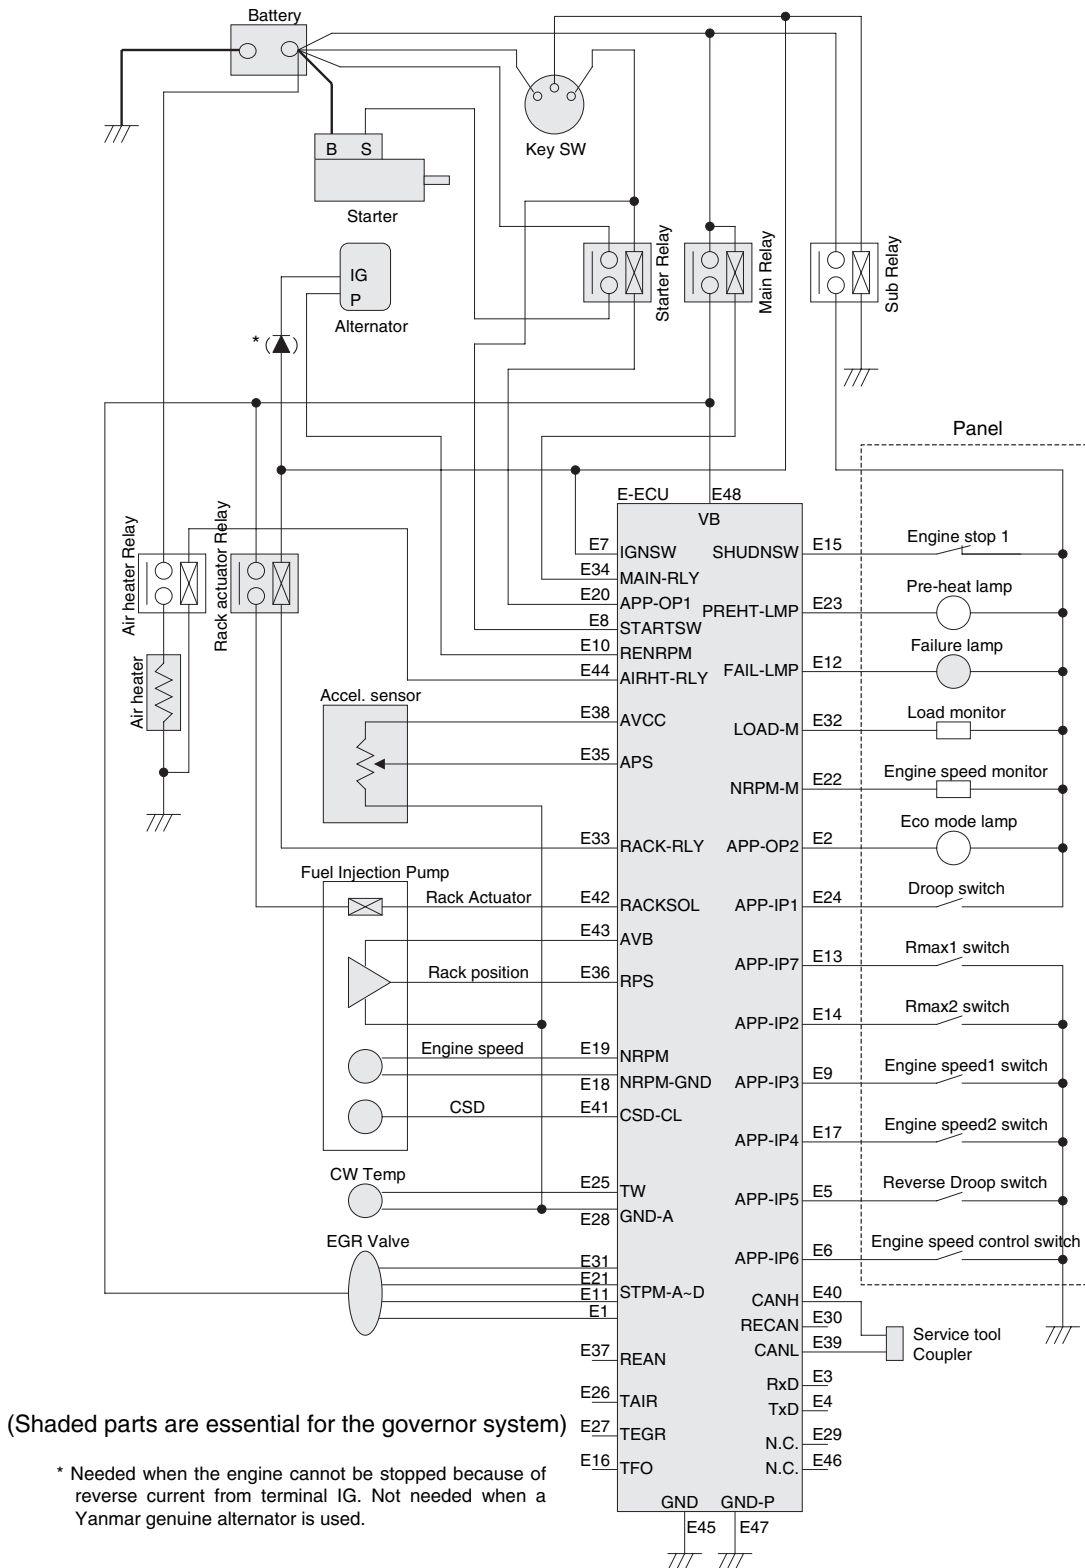

Figure 2-4 Electrical connection diagram of the Eco-governor system
The electrical connection diagram of the Gen2 Eco-governor is shown in **Figure 2-4** below.
The following describes each of the components shown in Figure 2-4.
- The circuit shown in **Figure 2-4** allows the E-ECU to control the starting aid relay and provide ON-glow, simultaneous energization or after-heating. The preheat lamp can be turned on when the starting aid is energized during the ON-glow process.
- To avoid such a trouble, you should separate alternator terminal IG from the rack actuator excitation circuit or insert a diode (marked with an asterisk in **Figure 2-4**) into alternator terminal IG in order to prevent reverse current from the terminal.
Figure 2-6 shown the connector pin numbers of the E-ECU. Note that the connection diagram in **Figure 2-4** uses the pin numbers with a prefix of "E" as circuit symbols.